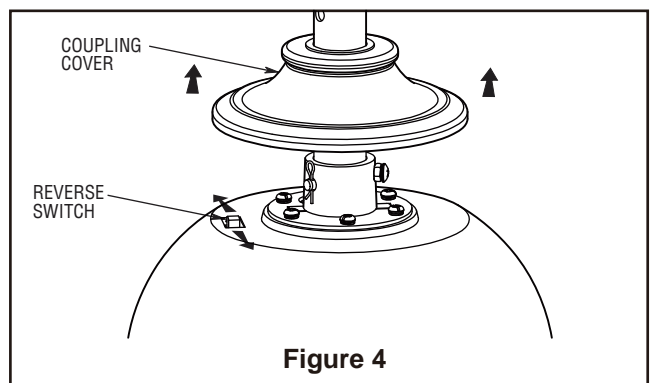

Figure 4
- 4. If airflow is desired in the opposite direction, turn the fan off and wait for the blades to stop turning. Slide the coupling cover up to expose the reverse switch. Then slide the reverse switch on top of motor assembly to the opposite position and turn fan on again (Figure 4).